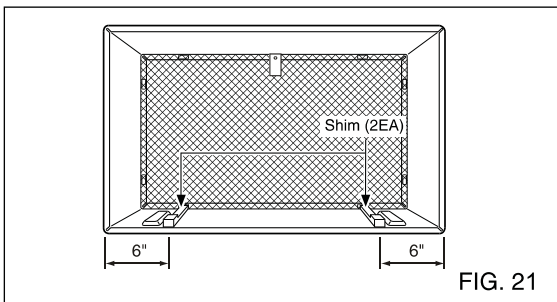

FIG. 21
- 7** To achieve rearward slope for unit draining, remove the backing from the 11³/₁₆" shim strips and attach them as shown below in Fig. 21. The higher portion of shim is to be placed in front of the rib on the base of wall sleeve.